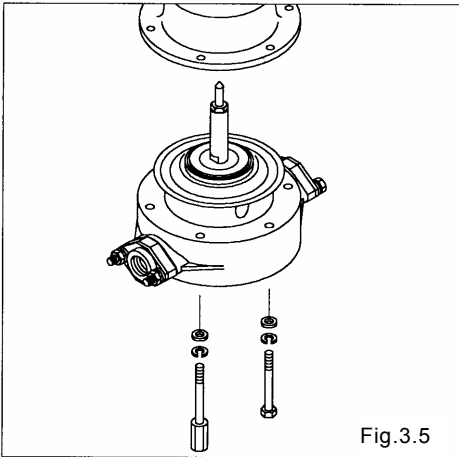

Fig.3.5
- Remove the 6 out chamber locking bolts and studs and remove the out chamber. (AD-10, AD-25) [Fig.3.5]
- Remove the 8 out chamber locking bolts, studs and nuts respectively, and remove the out chamber. (AD-40, AD-50) [Fig.3.5]
- Pull out the diaphragm, center disk and center rod from the main body. [Fig.3.5]